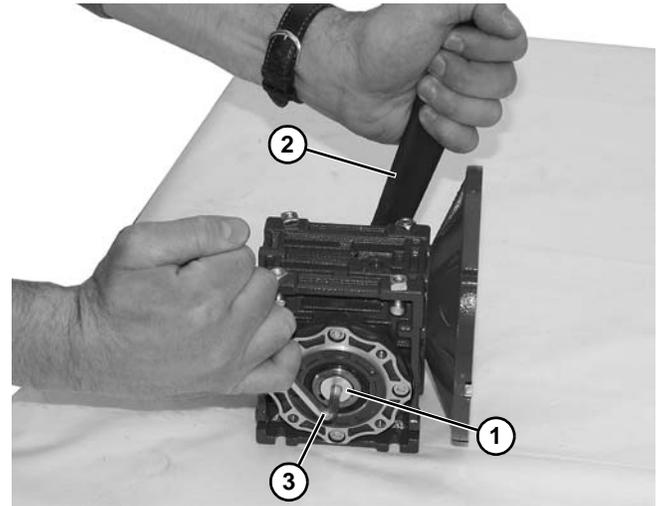

Figure 30
- Loosen driveshaft bolt (**Figure 30, item 1**).
- Hold the driveshaft with a wrench (**Figure 30, item 2**) as shown to keep shaft from turning, while removing screw with hex wrench (**Figure 30, item 3**).
7. Hold the driveshaft with a wrench (**Figure 30, item 2**) as shown to keep shaft from turning, while installing screw with hex wrench (**Figure 30, item 3**). Tighten capscrew to 100 in-lb (11.5 Nm) for 42CZ or 350 in-lb (39.5 Nm) for 56C, 63B5 and 71B5.
8. Apply anti-seize to motor shaft before assembling to gearbox. With key (**Figure 30, item 2**) in keyway, slide motor (**Figure 30, item 2**) and gear reducer (**Figure 30, item 3**) together. Install screws (**Figure 30, item 1**) and tighten.
9. Install output shaft cover (**Figure 30, item 6**) and secure with two (2) screws (**Figure 30, item 5**).